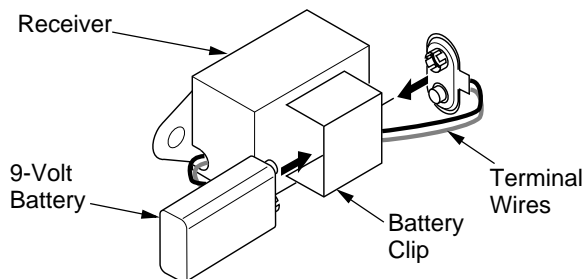

Figure 46 - Installing Battery in Receiver
4. Install battery into receiver battery clip and connect to terminals (see Figure 46).